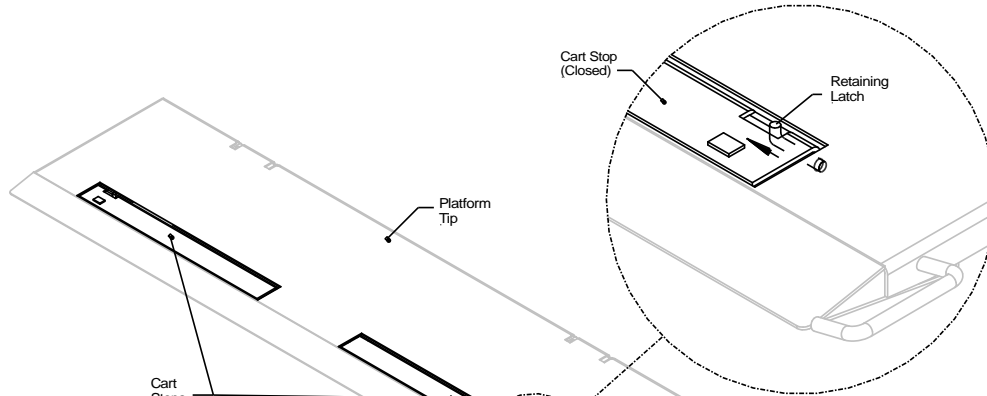
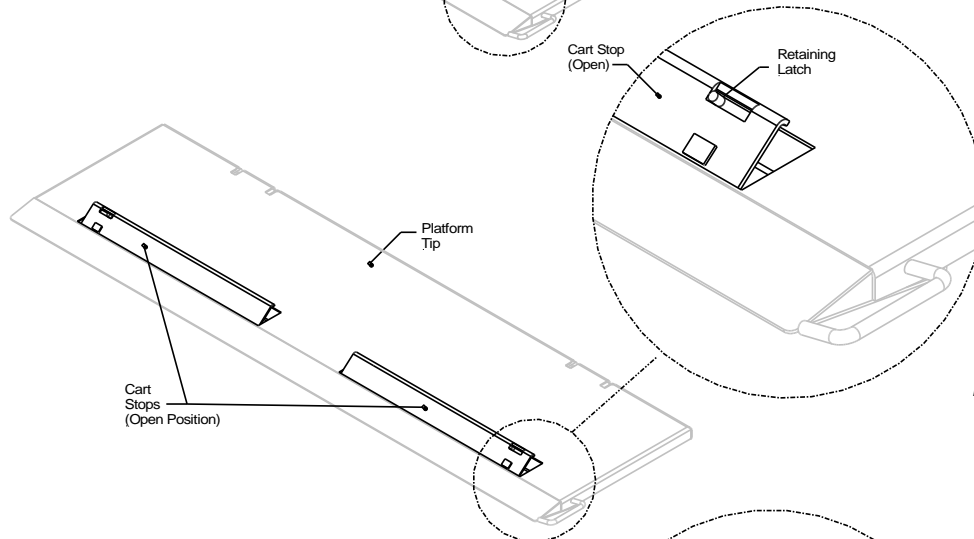

Fig.17
Fig.18
1. Each cart stop is equipped with a retaining latch. Push each latch inward to open the cart stop, **Fig. 17**. The cart stop will automatically spring open once the latch has been pushed, **Fig. 18**.